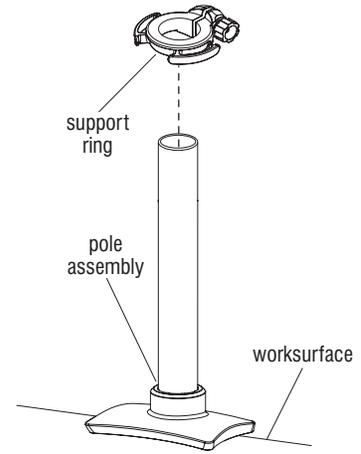

Figure 2
4. Slide the support ring down the pole to the desired height of the monitor screen. Twist the knob on the support ring to secure in place (Figure 2).